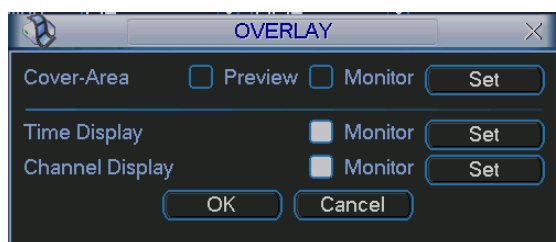

Figure 5-7
- Overlay: Click overlay button, you can see the interface shown in Figure 5-7